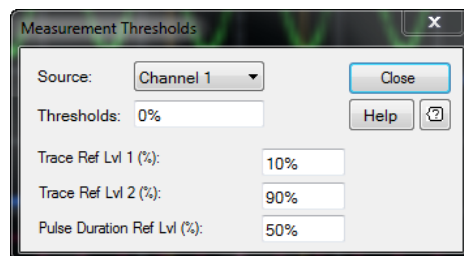

Figure 2-42 Measurement Thresholds dialog
- 2 The Measurement Thresholds dialog is displayed as shown in Figure 2-42 to allow you to configure the threshold settings for each channel.